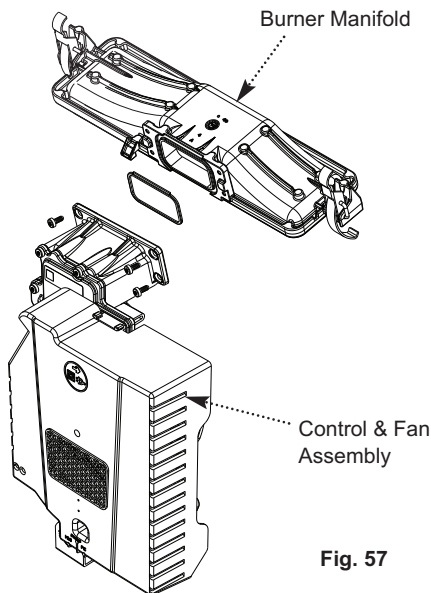

Fig. 57
10.3.11 Control & Fan Assembly (Figs. 57, 58 & 59)